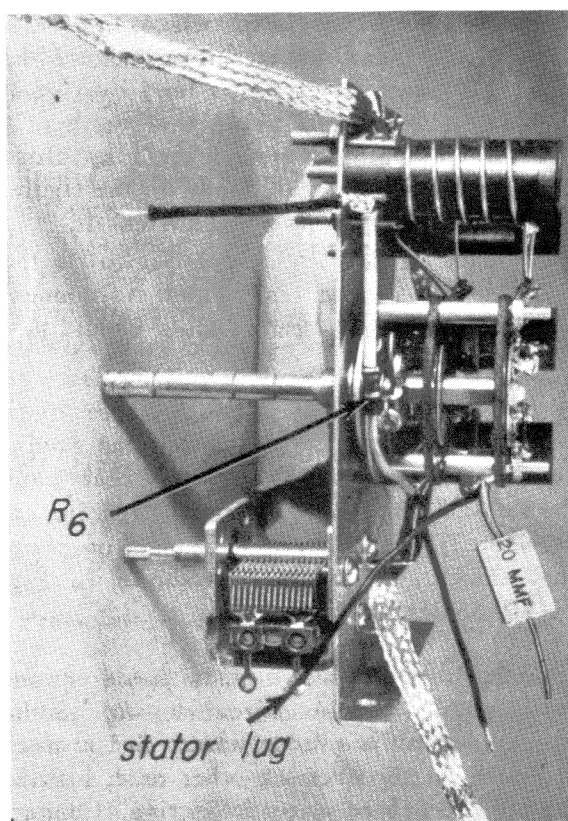

Fig. 21-11
Step 6. Connect the wire from the moving contact lug on the bandswitch rear wafer (to which the 20- μ mf mica capacitor is connected), to the tuning capacitor stator lug nearest the plate, as shown in Fig. 21-11. Solder the connection.
same coil terminal. Solder the connection. Your tuning assembly plate should now look like Fig. 21-11. Put the tuning assembly plate aside until you are ready to mount it on the subchassis.